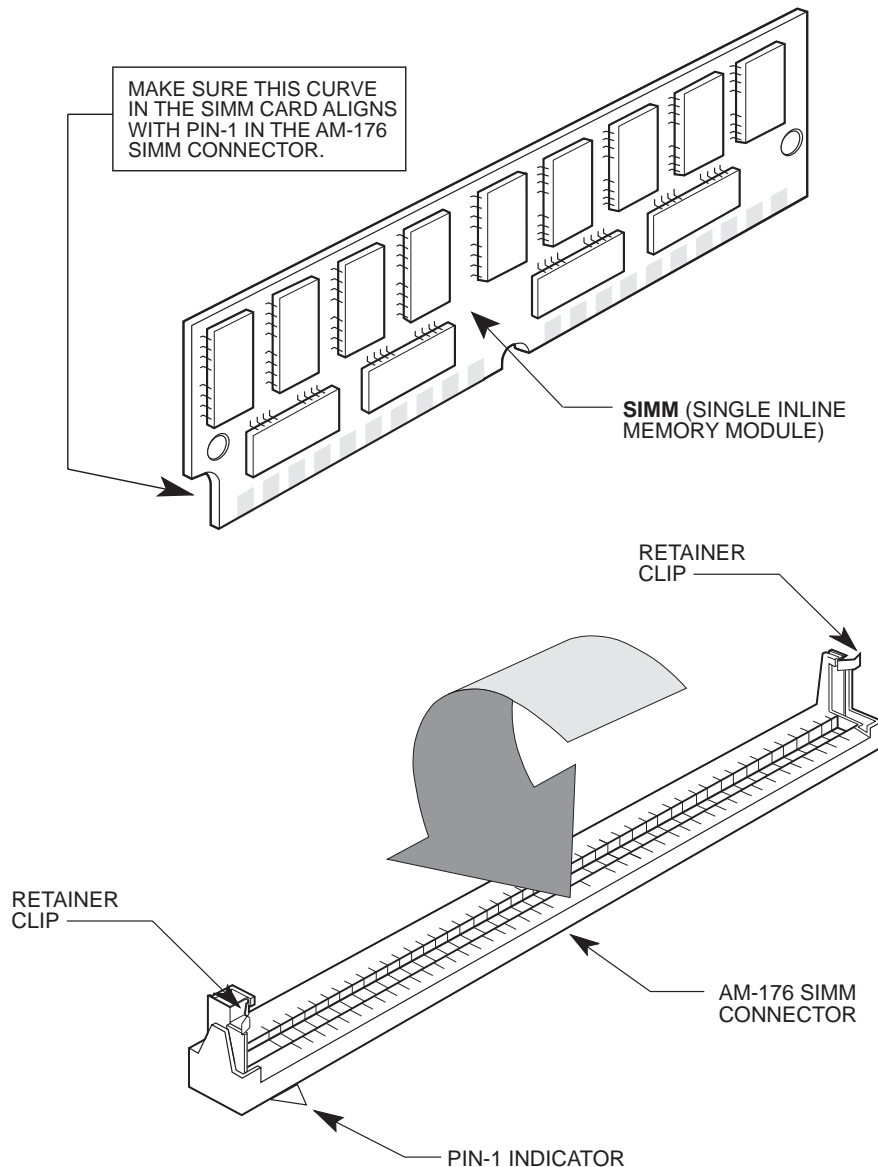

Figure 9: AM-176 SIMM Module Installation
1. Align pin-1 on the external cache SIMM module with pin-1 on connector at J1. Pin-1 on the SIMM module is on the notched end of the module (see Figure 9 below).
4. Insert the first SIMM in connector J2. Align pin-1 at the notched end of the SIMM module with pin-1 on the connector, as shown in Figure 9.